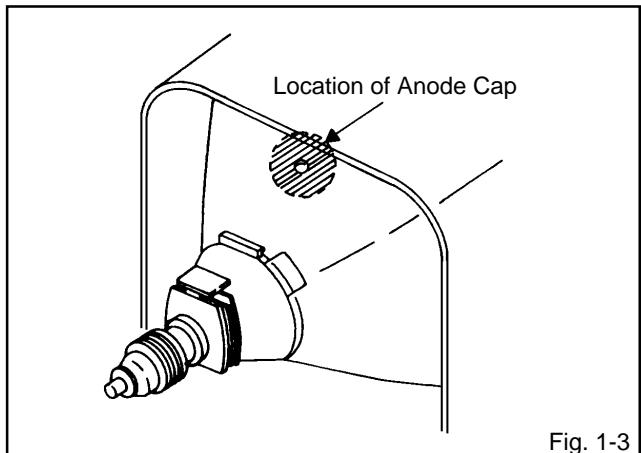

Fig. 1-3
1. Clean the spot where the cap was located with a small amount of alcohol. (**Refer to Fig. 1-3.**)